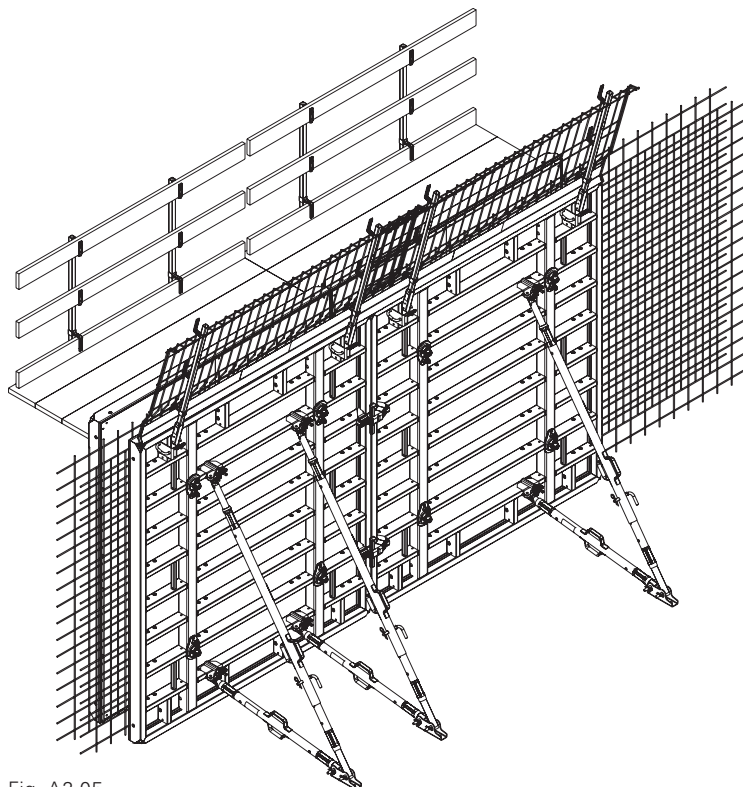

Fig. A2.05
- 1 push-pull prop. (Fig. A2.05)
(Fig. A2.05)